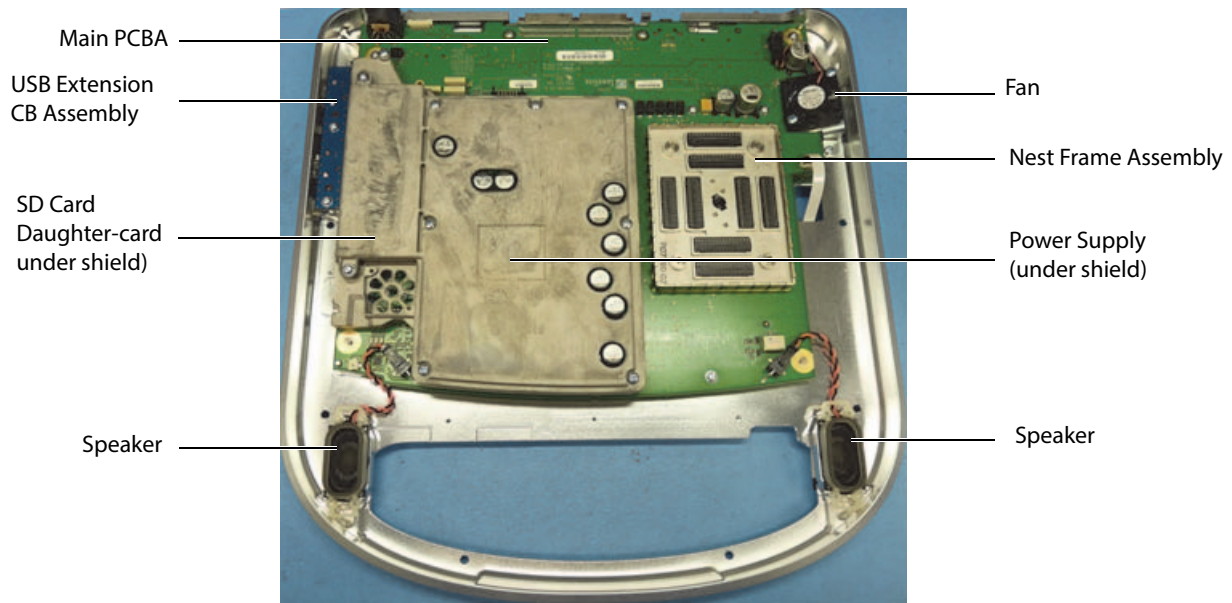

Figure 6.9 System Components
- 4 Follow the cable removal from the procedure in “Display Removal” on page 42. This exposes all of the replacement parts for the main system per Figure 6.9.